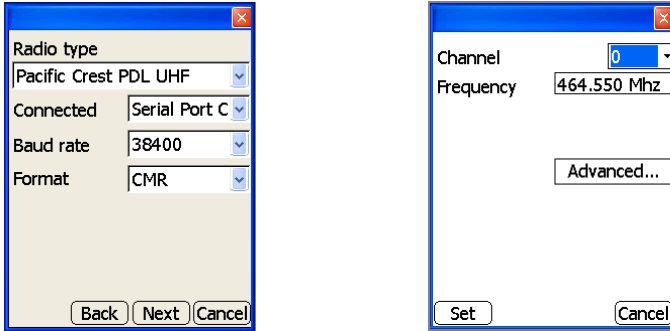

Figure 2-12. Radio Setup and Channel Configuration Dialog Boxes
On the *radio setup* dialog box, set the following parameters and press **Ok** (Figure 2-12 on page 2-9):
- **Configure** – changes the radio channel. Press **Configure** to display the *channel configuration* dialog box (Figure 2-12). Select the desired channel and the corresponding Frequency displays. Press **Set** to apply the radio channel parameters.